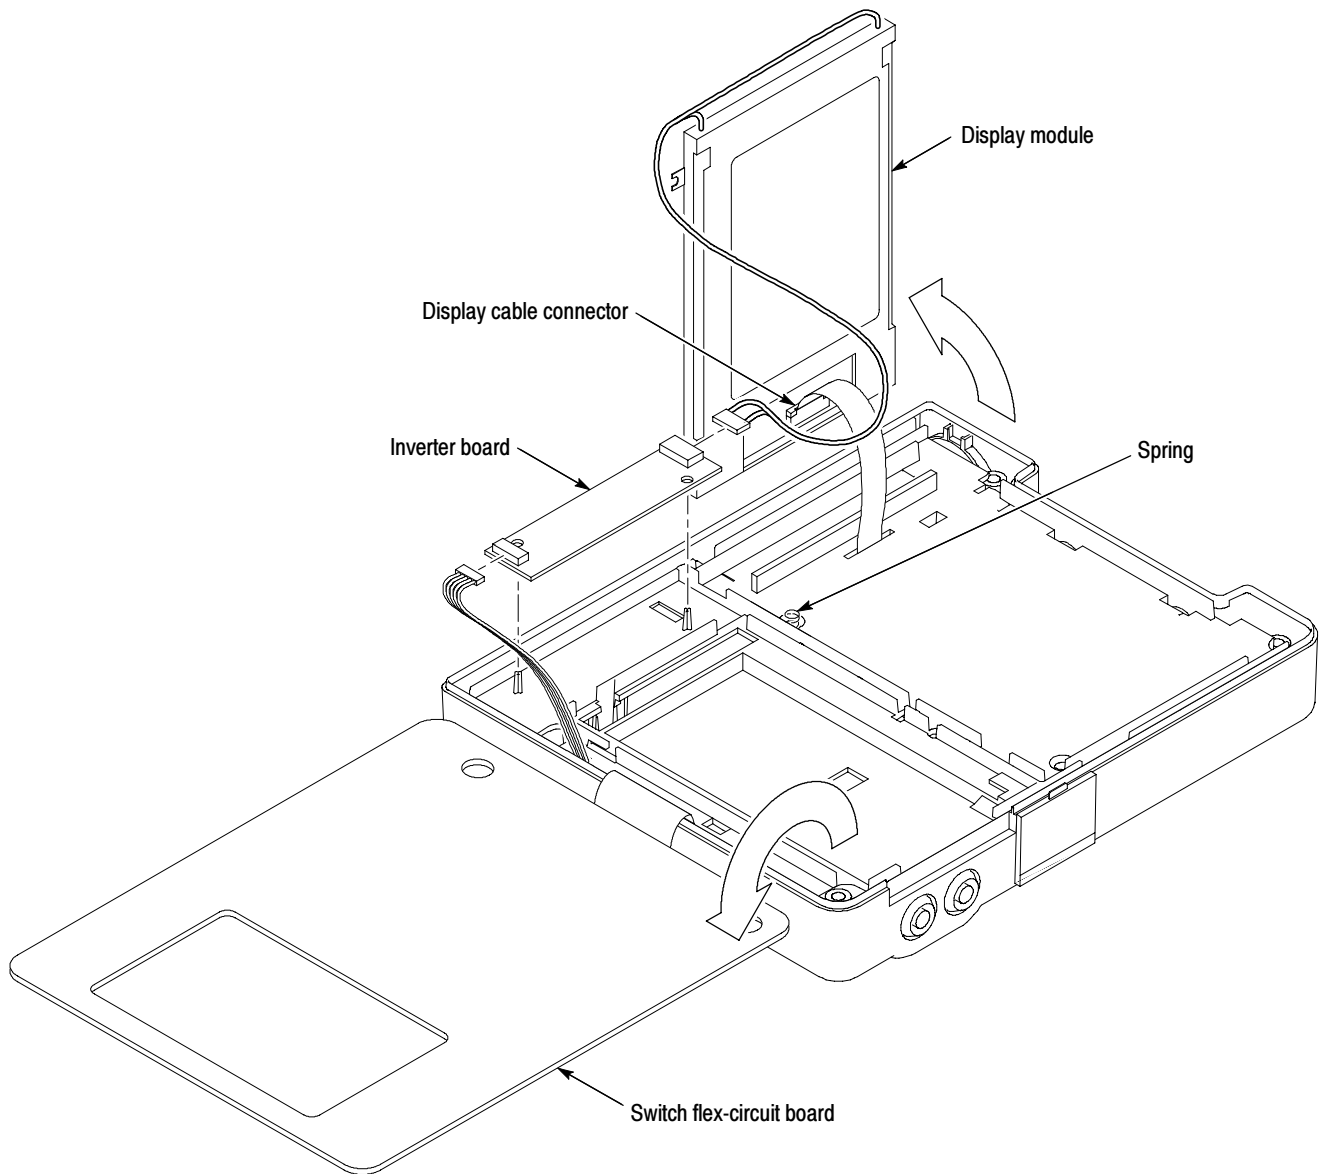

Figure 18: Removing the display module
- b. Lift the right side of the display module out of the chassis and fold the display module to the left, as shown in Figure 18.
2. Hold the display module upright as shown in Figure 18.